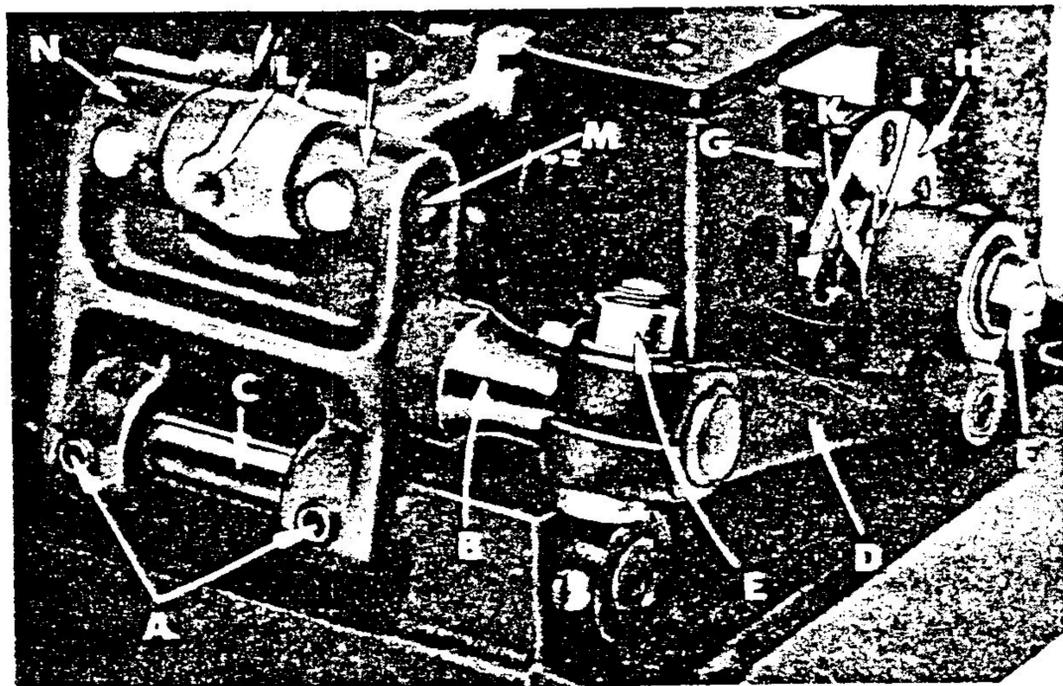

Fig. 10
Should it be necessary to move the feed dog to the left or right, loosen screws (A, Fig. 10) which hold the feed rocker (B) onto the feed rocker shaft (C), and move feed rocker to desired position and retighten screws. Make sure the feed rocker arm (D) does not bind after making this adjustment.
Should it be necessary to move the feed dog forward or backward, loosen nut (E, Fig. 10) which clamps the feed rocker arm to the feed rocker and move the feed rocker forward or backward as needed and retighten nut.
Set the stitch to required length. This is accomplished by loosening the locknut (F, Fig. 10) 1/2 turn (it has a left hand thread) on the end of the stitch regulating stud and turning the stitch adjusting screw (G) located under the left end of the cloth plate, in the head of the main shaft (H), which is marked with 'L' and 'S'. Turning the screw clockwise shortens the stitch (moves stitch regulating stud toward the 'S') and turning it in a counterclockwise direction lengthens the stitch (moves stitch regulating stud toward the 'L'). Retighten the locknut securely. To prevent destructive damage to the feed drive bearing, the Key screw (J) must engage the 'U' shaped key slot in the ferrule (K).
Greased bearings are located at (N, P, Fig. 10). If grease sealed bearings are replaced they should be pressed in flush with the casting. To assemble, reverse the procedure described in the previous paragraph. Start tapered end of shafts first, twisting slightly when entering the grease seals to prevent damage. Check for proper adjustment of feed dog as described under 'Setting the Feed Dog'. Also check to see that there is no binding at any point.
The feed rocker assembly may require lubrication or repair after years of operation. This can be accomplished as follows: Loosen nuts (E, F, Fig. 10) and remove nut (F). Remove feed rocker arm (D) from machine by rocking slightly. Loosen screws (A) and remove stop collar on right end of shaft (C). The shaft can now be withdrawn. Loosen Allen screw (L) and remove shaft (M). Now, repack bearings.